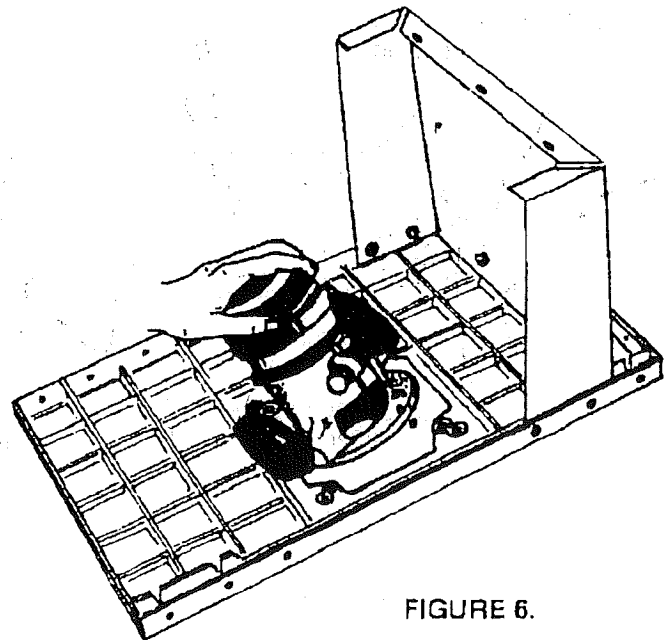

FIGURE 6.
2. While holding the router upside down, position it to the underside of the throat plate, as shown in Figure 6.